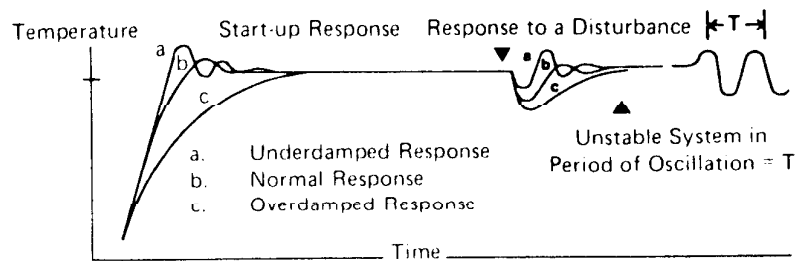

Figure 5-3
4. Record the period of oscillation (T) for the controller as shown in figure 5-3.
6. Set the values of Prop Band, Integral, and Derivative as shown below based on the response desired (reference figure 5-3.)